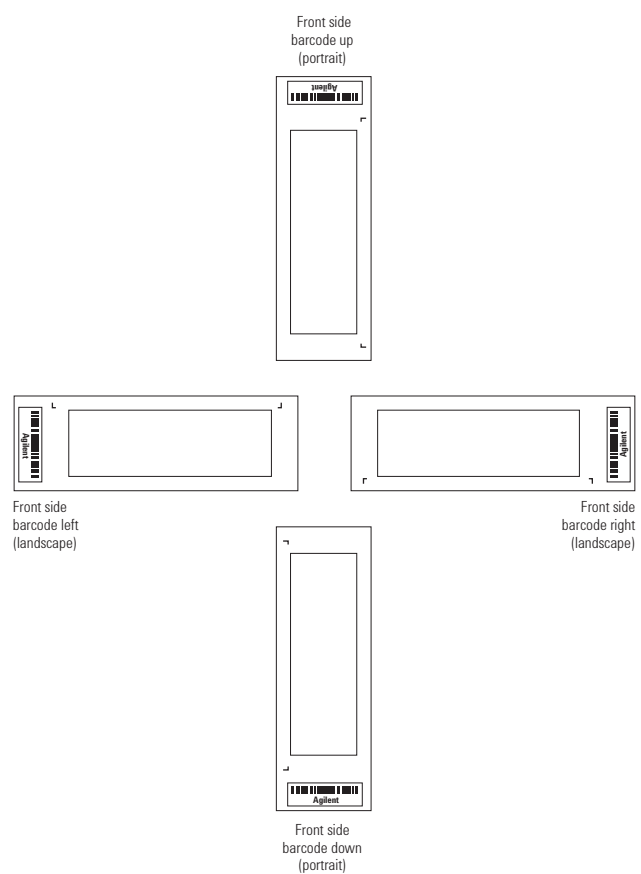

Figure 9 Microarray slide orientation
- If the microarray image produced by the non-Agilent scanner is oriented in a “portrait” or “landscape” mode, and “Agilent”-labeled barcode is on the left-side, right-side, up or down, as viewed as an image in the imaging software (see Figure 9).